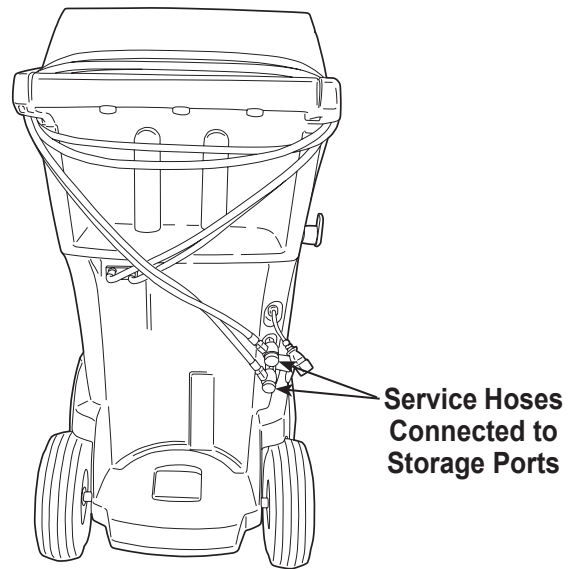

Figure 4
2. When prompted, connect the service hoses from the machine to their storage ports as shown in Figure 4. Select ►► to continue.